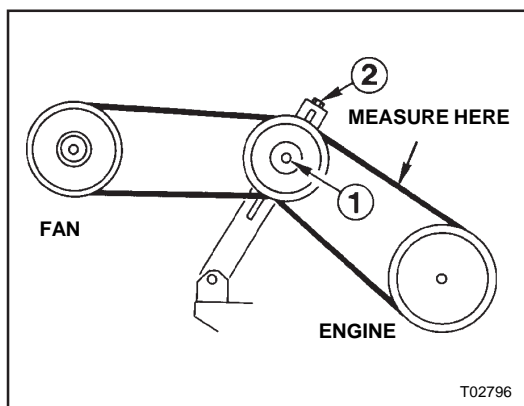

**Figure 24: Adjusting alternator V-ribbed belt**
-Figure 24**
1. Loosen alternator pivot bolt (1).
2. Slacken alternator mounting bolt (2).
4. Turn adjusting nut (4) until correct tension is obtained.